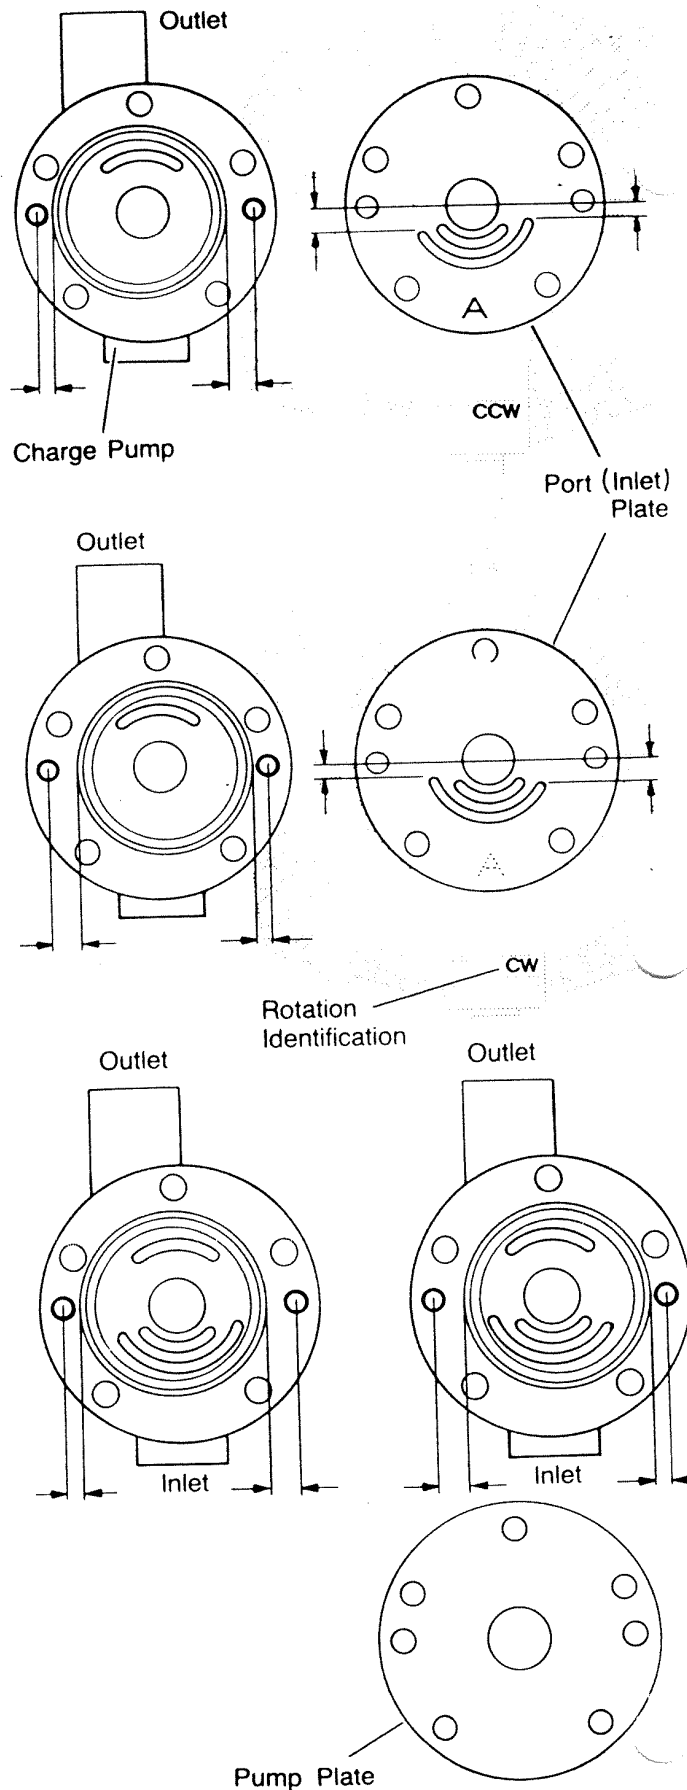

Fig. 38
**78** Install pump plate or port plate on cover. Either side of the pump plate may face the cover regardless of input rotation. However, the port plate must be installed per specific input rotation. See Figure 38.